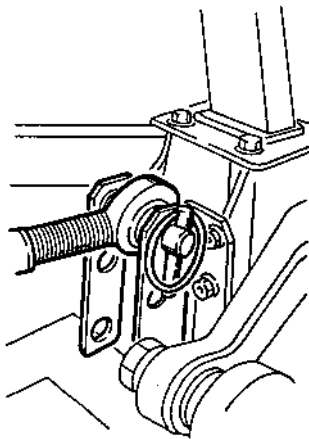

Fig. 13
- 2 Install the hitch top link to the tractor mounting bracket and secure with clip as shown Fig. 13.